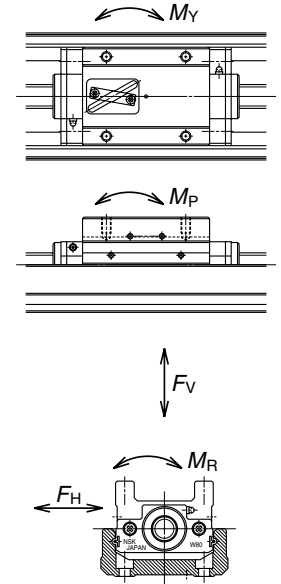

Fig IV-4-1 Direction of load
The equivalent load (F_e) is determined by substituting the load acting on the linear guide of monocarrier (refer to Fig. IV-4-1) for Eq. (1) (Eq. (2) in case of the tightly coupled double-slider type).